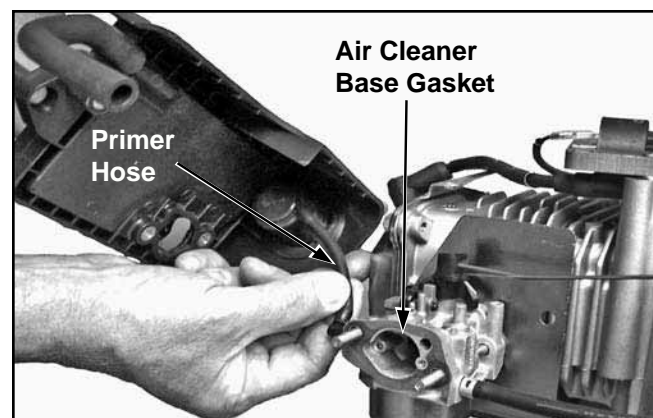

Figure 8-12. Disconnecting Primer Hose.
- Remove the air cleaner base and detach the primer hose from the carburetor (primer bulb equipped models only). See Figure 8-12.
- Remove the air cleaner base gasket from the carburetor, noting orientation. See Figure 8-12.